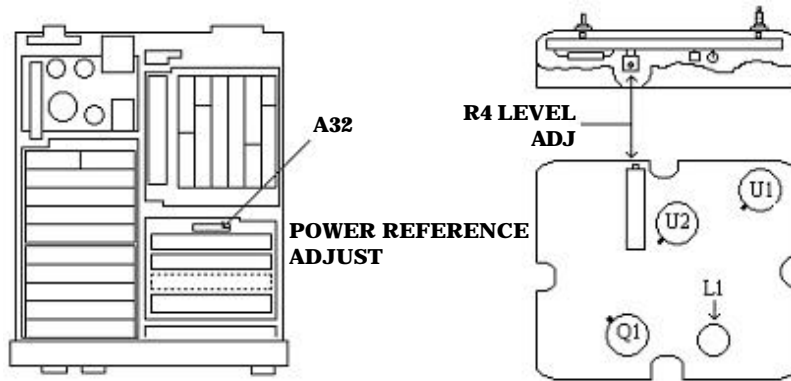

Figure 16. A32 board.
(11) Adjust A32R4 LEVEL ADJ (fig 16) to adjustment value calculated in (10) above. (R)
(12) Disconnect equipment setup.